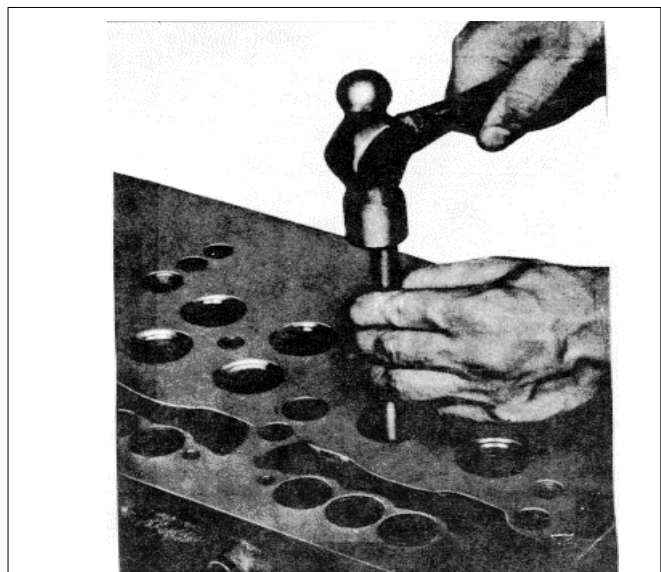

Fig.7
- (1) Remove and discard the valve guide oil seal.
- (2) Support the cylinder head, bottom side up, on 3" thick wood blocks.
- (3) Drive the valve guide out of the cylinder head with valve guide remover J6569 as shown in Fig.7.